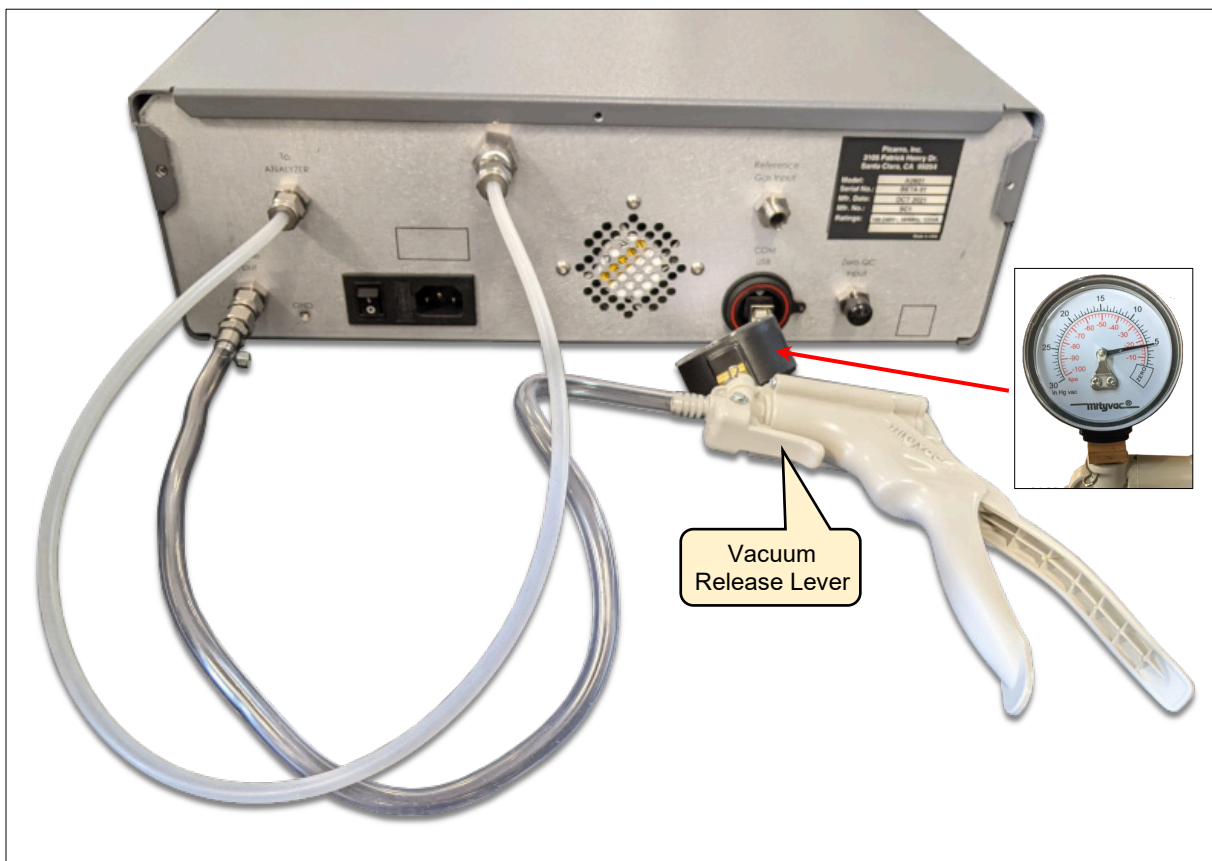

Figure 62: Post-service Leak Check Setup
2. Connect the hand pump to the ZRM Sample Input port a shown in Figure 62.